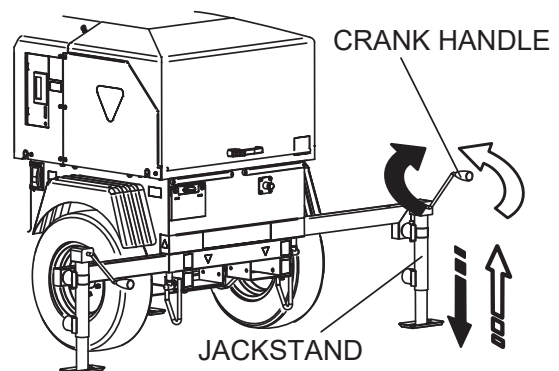

Figure 9. Lowering the Jackstands
5. After extending all outriggers, place all trailer jackstands into working position. Turn the crank handle on the jack stand clockwise to lower it and level the light tower (Figure 9).